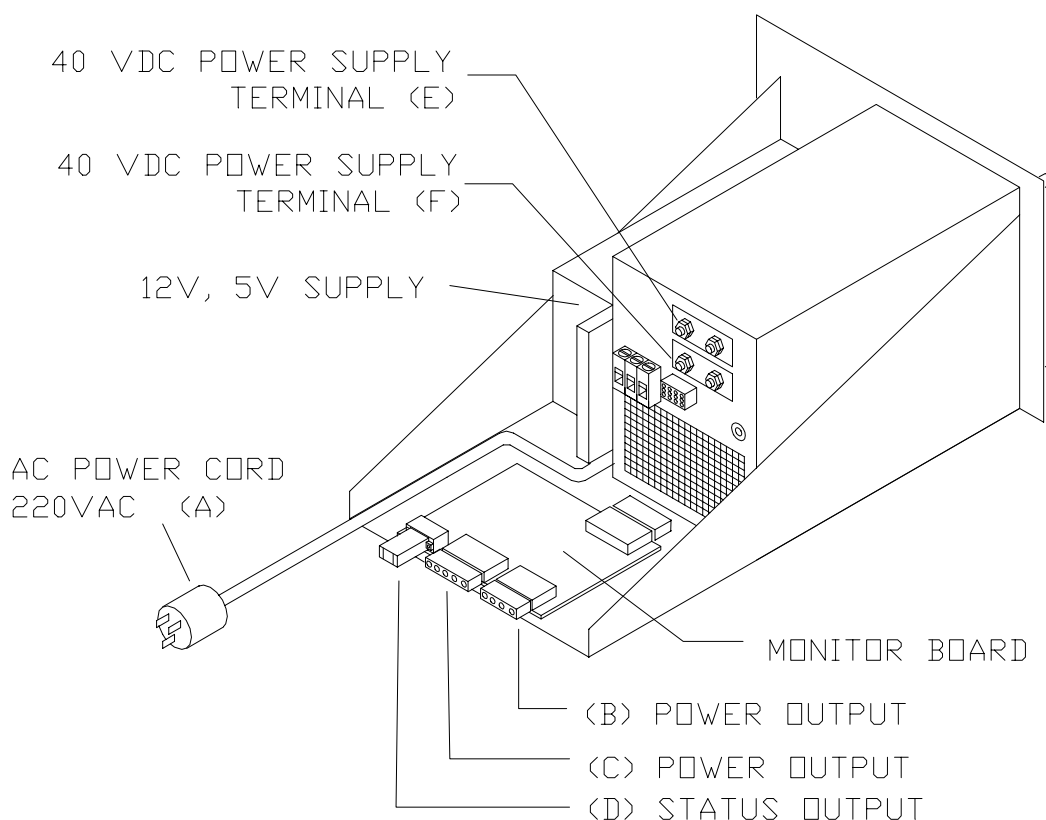

Figure 6-24 PA Power Supply Drawer Component Layout
2. Disconnect the PA Power Supply AC power cord from the breaker outlet box cable (A) in [Figure 6-24].
3. Disconnect the two power output connectors from the rear of the power supply Monitor Board points (B) and (C) in [Figure 6-24].
4. Using a small flat-blade screwdriver, loosen the fastening screws and disconnect the "D" sub-miniature connector from the rear of the power supply Monitor Board point (D) in [Figure 6-24].
5. Using a small adjustable wrench, loosen the nuts on the main DC output terminals of the PA Power Supply points (E) and (F) in [Figure 6-24] and remove the heavy-gauge red and black wires from the lugs.
8. Reconnect the heavy-gauge red and black wires at points (E) and (F) in Figure 6-24. The red wire connects to the positive terminal and the black wire connects to the negative terminal.
9. Reconnect connectors B, C, and D to their respective ports as shown in Figure 6-24. Use a small screwdriver to tighten the fastening screws of the "D" sub-miniature connector.
10. Plug the AC power cord (cable A in Figure 6-24) into the breaker outlet box at the base of the PA Cabinet.